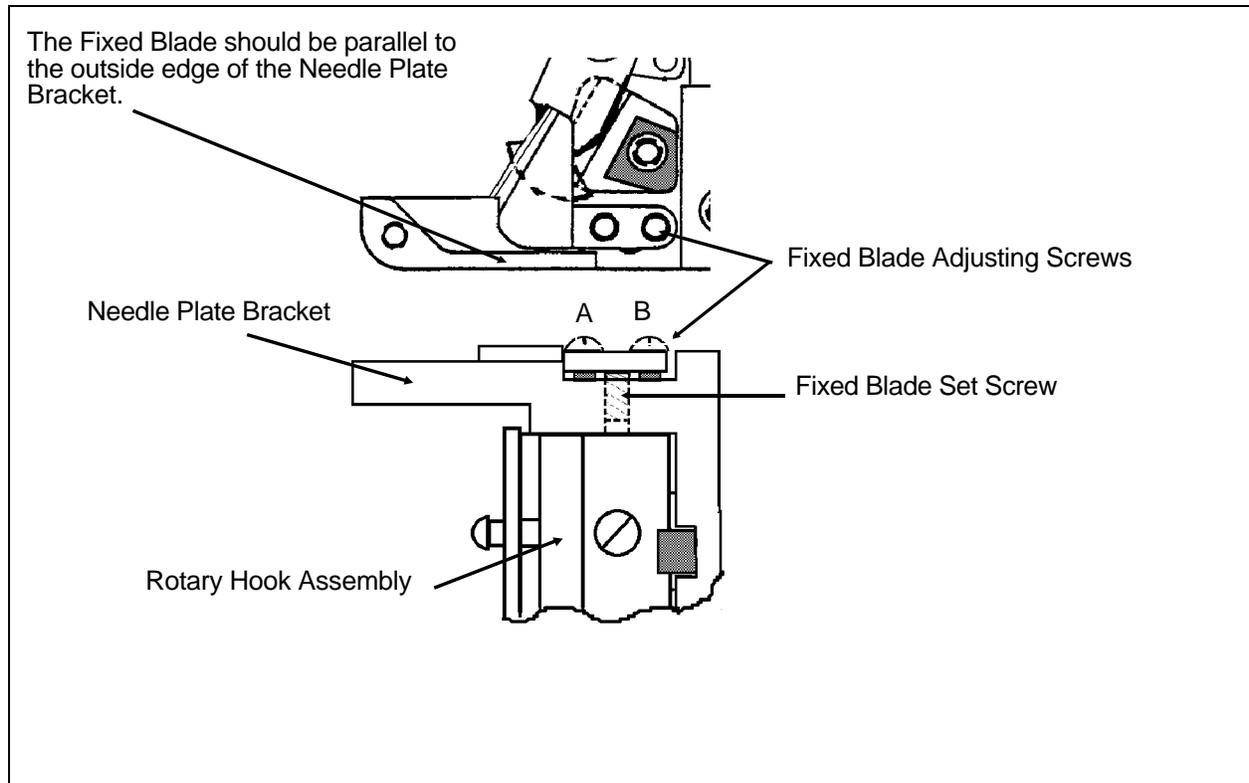
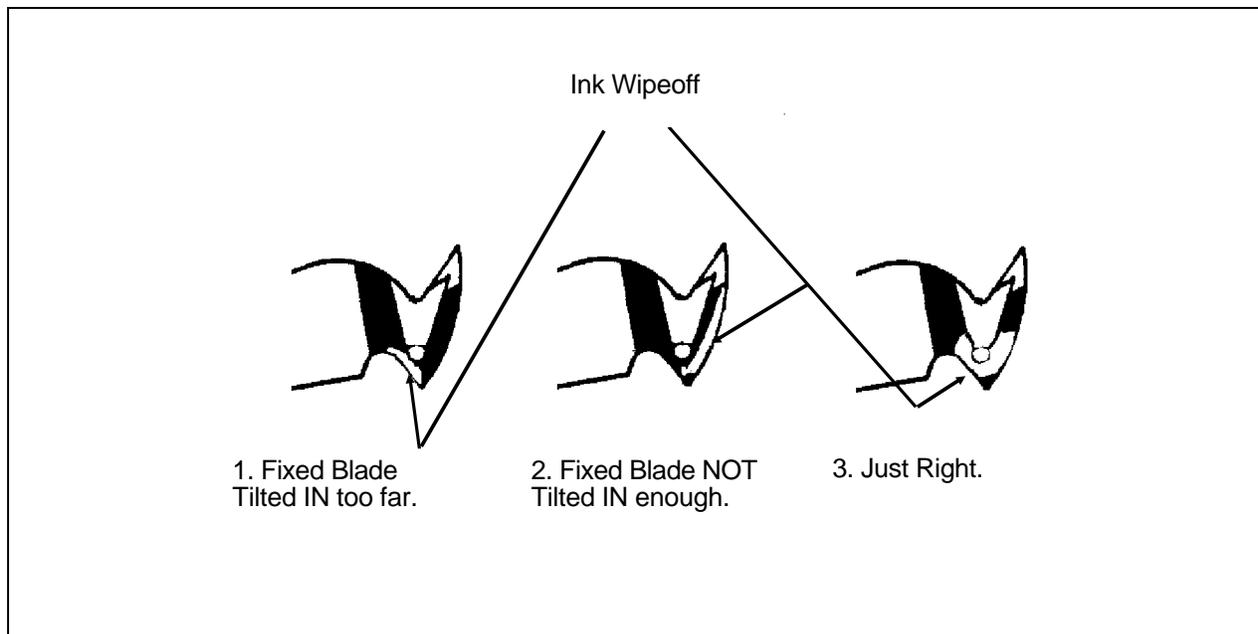

Fig. 2-8 Adjusting The Fixed Blade
Fig. 2-9
- 6 . Use Fig. 2-8 and Fig. 2-9 on the next pages, as guides to making the Fixed Blade adjustments. Adjust the Fixed Blade with the two (2) screws, labeled A and B shown in Fig.4-8.
NOTE: You should never have to change the height of the Fixed Blade Set Screw, shown in Fig. 2-8 , the only time you will need to adjust the height of the Set Screw is if it is replaced. At which time this screw should be set 1 1/2 turns above flush on the needle plate bracket. This is indicated in Fig.2-8.
- Tighten screw A until the ink wiped off looks like # 2 in Fig. 2-9.
- Then tighten screw B until it looks like # 3 in Fig. 2-9.
the blade, the ink wiped off the top of the blade will look like Fig. 2-9, # 1. Tighten screw A little bit and then pass the Movable Knife under the Fixed Blade again and look at the knife if it does not look like Fig. 2-9, # 3, tighten screw B a little bit more. The object here is to get the ink wiped off the Movable Knife, by the Fixed Blade, so that the wipe off looks like Fig. 2-9, # 3. There should be some resistance as the Movable Knife passes under the Fixed Blade, but be careful, you can get a good wipe off and still have the Fixed Blade too tight, this can cause Z Timeout Errors. Make no mistake here, this is a difficult adjustment. The first few times you attempt it you will get frustrated. But keep going, once you get the "feel" for adjusting the Fixed Blade you will be able to accomplish it in a few minutes. All it takes is a little practice and some patience.